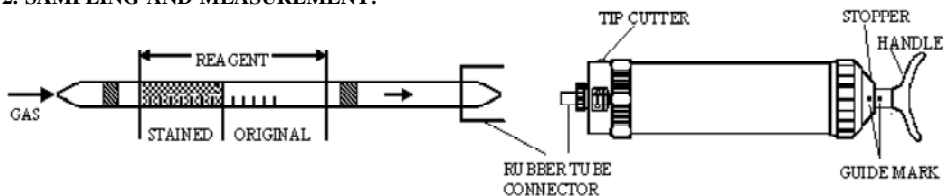

Fig.1
- ① Break both ends of detector tube.
- ② Insert the detector tube into aspirating pump securely as shown in Fig.1. (Arrow mark shall point to the pump.)
- ③ Align the guide marks on the shaft and stopper of the aspirating pump.
- ④ Pull the pump handle at full stroke until it locks and wait for 1.5 minutes or until the completion of sampling is confirmed with the flow indicator of the pump (See descriptions about the flow indicator in the instructions of the pump).
- ⑤ Push the handle without removing the detector tube from the inlet, and air in the pump will be discharged perfectly. Then repeat the step ④ three times.
- ⑥ On completion of sampling, read the scale at the maximum point of the stained layer.